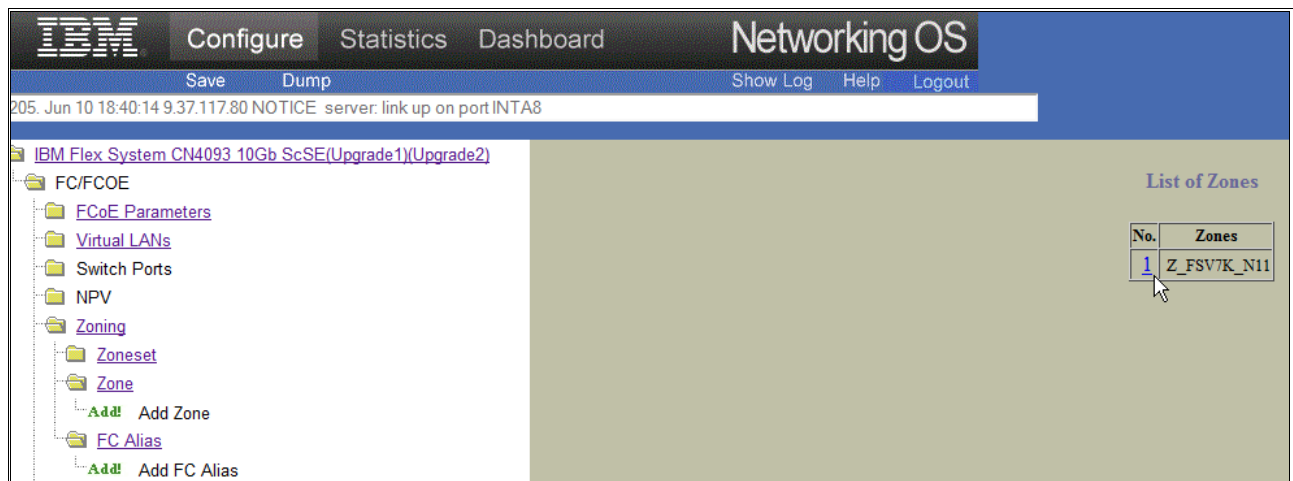

Figure 8-12 List of Zones
11. In the **List of Zones**, click on your new defined zone as shown in Figure 8-12.